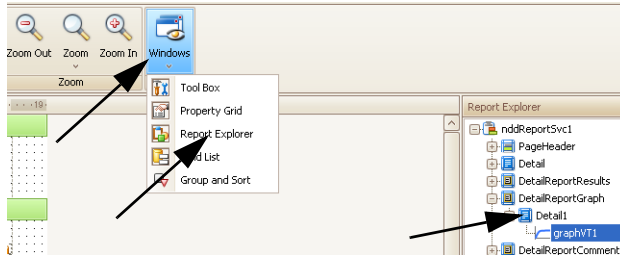

Fig. 12-8: Windows, Report Explorer, Detail Report Graph buttons
- Select **Windows** and then **Report Explorer** (Fig. 12-8:).
- Select **Detail Report Graph** (Fig. 12-8:).
- Click the small arrow in the upper right corner of the *Detail Report Graph* window (Fig. 12-8):